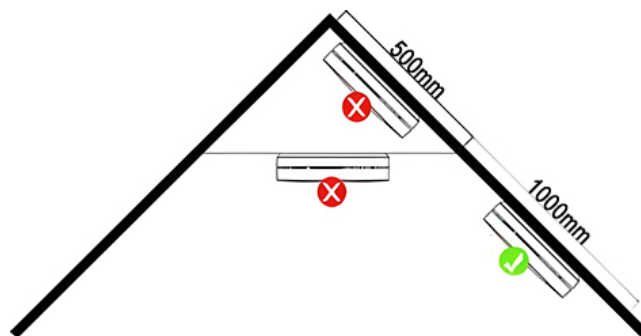

Figure 2
8. If the wall or ceiling is slanting, the alarm needs to be installed at least 500mm away from the highest wall or ceiling point in the room (see figure 2).